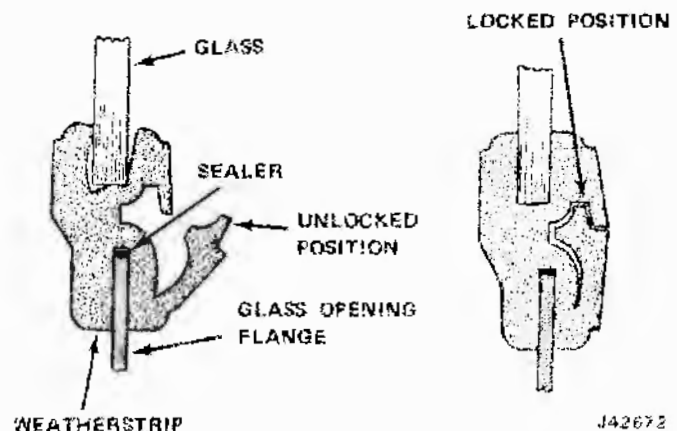

Fig. 17-4 Windshield Weatherstrip Cross-section
(11) The locking type weatherstrip without mouldings is shown in fig. 17-4.